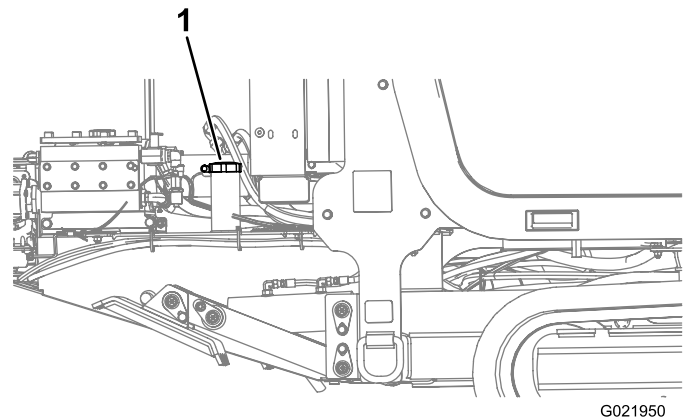

Figure 34
4. Remove the cap from the fuel tank (Figure 34).